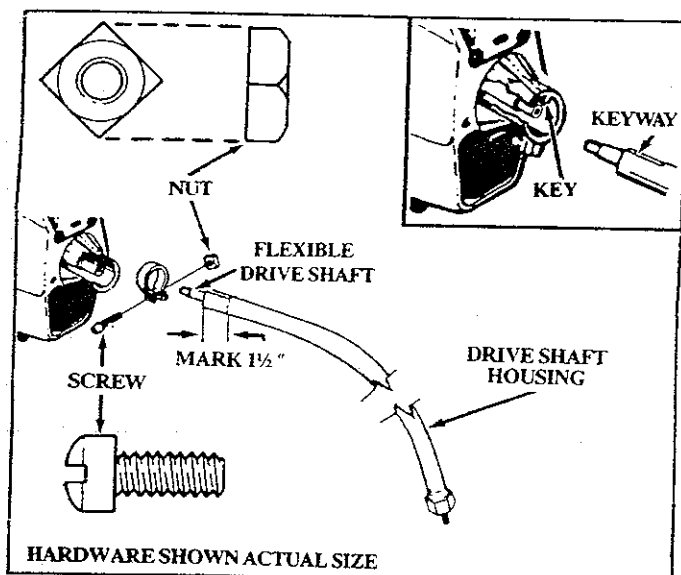

Figure 1
1. DRIVE SHAFT HOUSING — Figure 1
- Mark a line 1-1/2 inches from the straight end of the Drive Shaft Housing. Figure 1.
- Place the Clamp from the loose parts bag on the Engine Shroud as shown in Figure 1.
- Align the keyway in the Drive Shaft Housing with the key inside the Engine Shroud Opening. Figure 1.
- NOTE:** The Drive Shaft Housing must be positioned as shown in Figures 1 and 5.